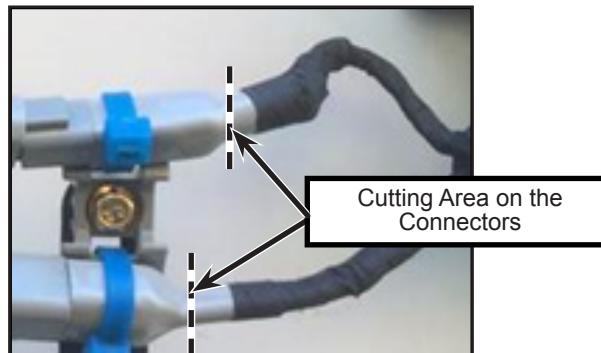

Figure 6 - Harness Side Connectors Removal
- 1.13. On the harness side, cut both the DTP and DT connectors with the terminals directly at the back end of the connector housing (see figure 6) and clean the wires with contact cleaner, if glue or dirt is present.